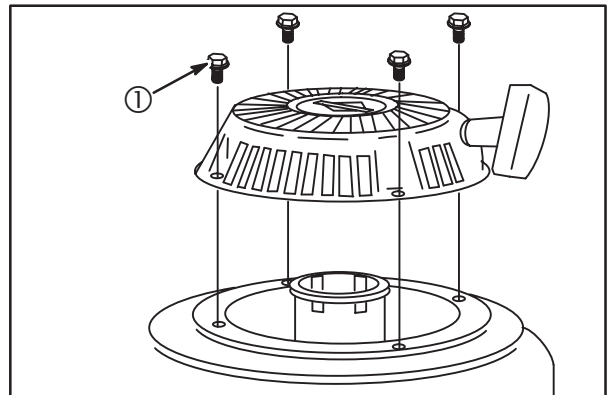

Fig. 74
1. Install rewind starter on blower housing and install screws (1) finger tight, **Fig. 74**.